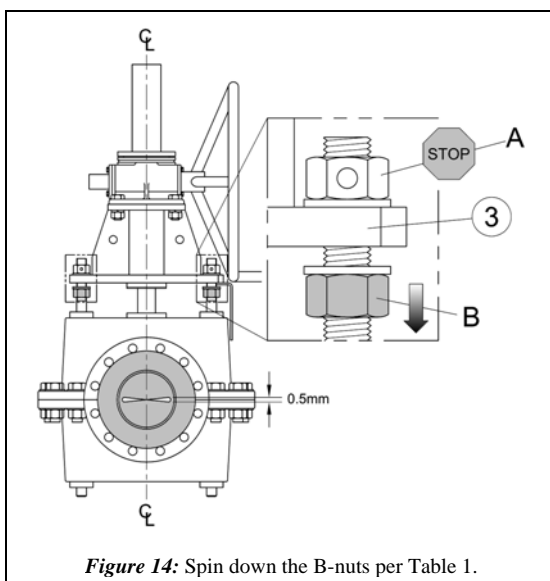

Figure 14: Spin down the B-nuts per Table 1.
STEP 11: Once the gap(s) are set with the RF Valve® closed, turn the B-nuts (Fig. 14) away from the fastening plate ③ a number of turns as found in table 1 (next page).